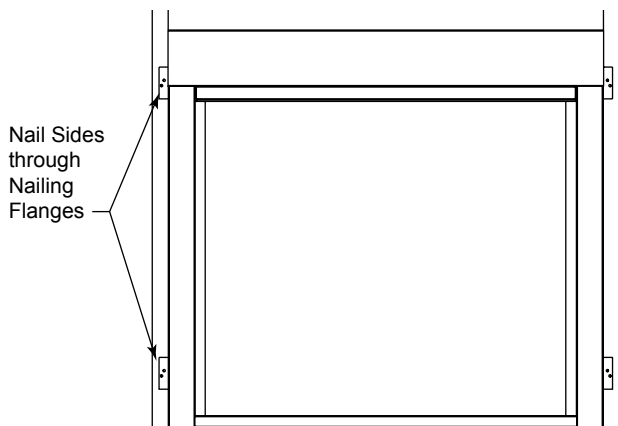

Figure 9 - Side Nailing Flanges
4. Anchor firebox to the side framing members using 8d nails or other suitable fasteners. *Figure 9*